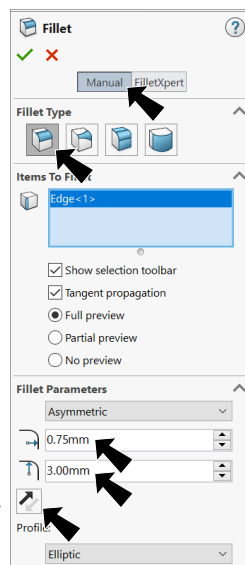

Fig. 25
Step 2. In the Fillet Property Manager, select **Manual**, **Fig. 25** under Fillet Type